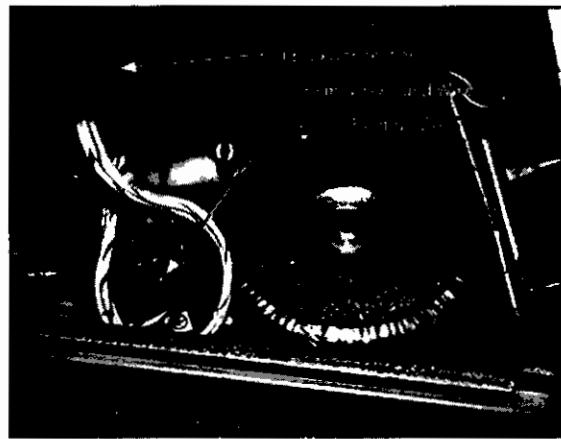

Figure 45 – Main Transformer Removal (A)
The main power transformer is mounted to the bottom chassis in the right electronics compartment. To replace the main transformer, follow the steps below and refer to Figures 45, 46, and 47.
- 4 For instrument serial numbers 1000 – 1695 only, disconnect the ground wire that is attached to the chassis bottom (see Figure 45).